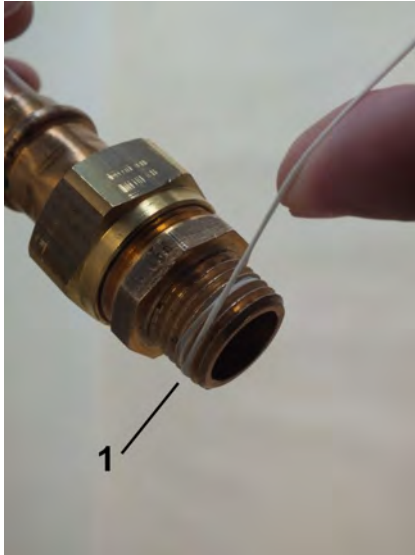

Fig. 9: Apply sealing thread
- #### 2. Apply sealing thread (Fig. 9/1) to the napped area in the threaded direction. Observe the quantity recommended by the sealant manufacturer.